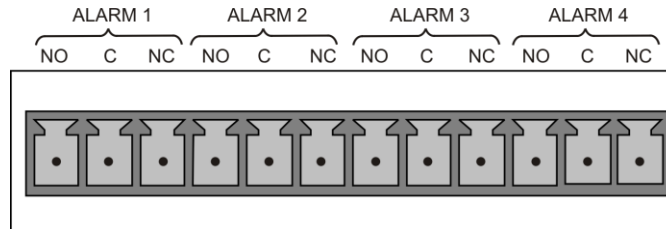

Figure 3-11: Concentration Alarm Relay
The analyzer has an option for four (4) “dry contact” relays on the rear panel of the instrument. This relay option is different from and in addition to the “Contact Closures” that come standard on all TAPI instruments. The relays have 3 pins that have connections on the rear panel: they are a Common (C), a Normally Open (NO), & a Normally Closed (NC) pin (see Figure 3-11).